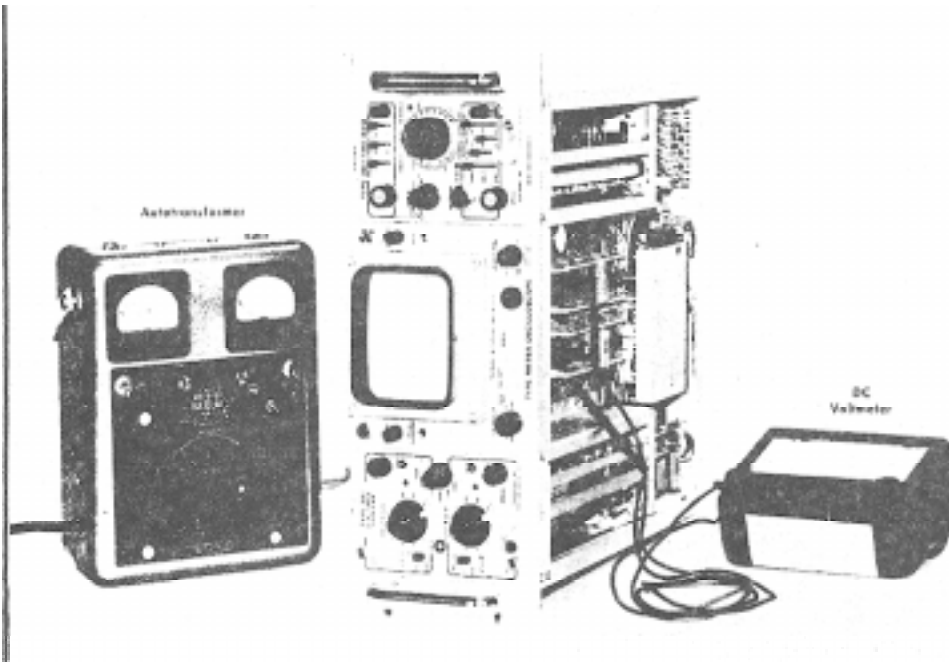
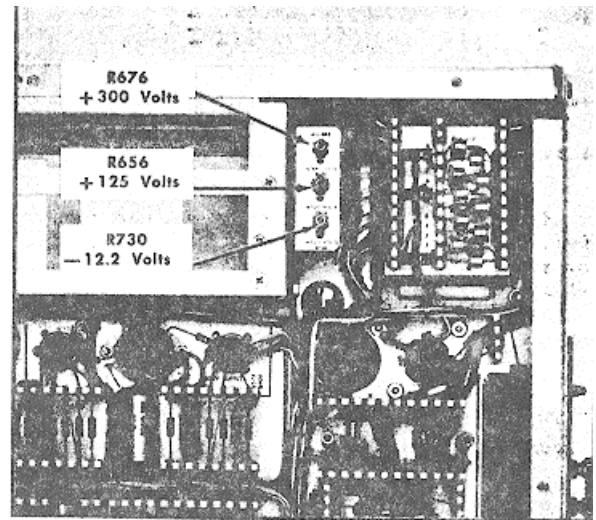

Fig. 6-3. Test equipment setup for power supply adjustments.
Fig. 6-5. Location of + 125-, +300- and --12.2-volt adjustment (bottom view).
①
- a. Test equipment setup is shown in Fig 6-3.
- a. Test equipment setup is shown in Fig. 6-3.
4. Adjust -1 2.2-Volt Power Supply ①
- d. ADJUST-12.2 Volts adjustment, R730 (Fig. 6-5), for -12.2 volts.
5. Adjust High-Voltage Power Supply ①
- d. ADJUST-+125 Volts adjustment, R656 (Fig. 6-5), for +125 volts.
3. Adjust +300-Volt Power Supply ①
- d. ADJUST-+300 Volts adjustment, R676 (Fig. 6-5), for +300 volts.